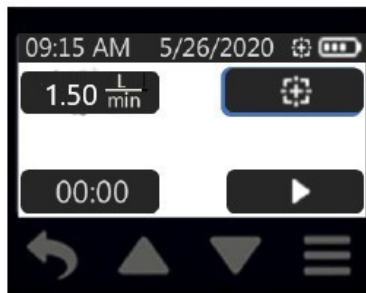

Figure 15. Main Display
6. The flow rate displayed on the pump will remain unchanged (Figure 15).